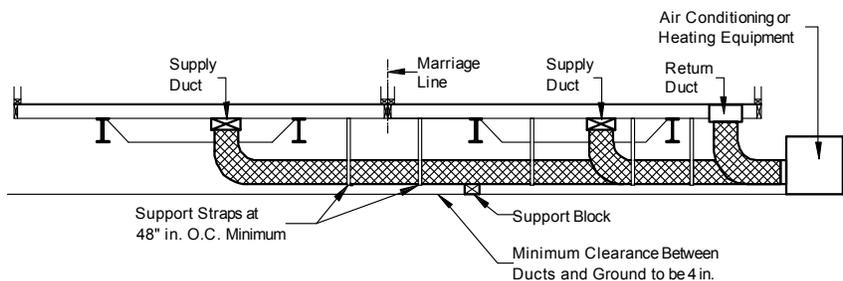

Figure 97. Ducts connecting exterior heating and/or cooling equipment to the home
2. **Install ducts.** Install the appropriate supply and return ducts (not provided) between the remote unit and the home (**Figure 97**), making connections according to the instructions for crossover ducts in **Crossover Connections** (p. 53).
Prepare the whole-house ventilation system according to the ventilation system manufacturer's instructions. Confirm that any fresh air intake ducts extend to the exterior and do not draw air from the crawlspace under the home. Do not allow any fresh air ventilation intake ducts to become kinked or restricted, forming a trap (**Figure 97**).